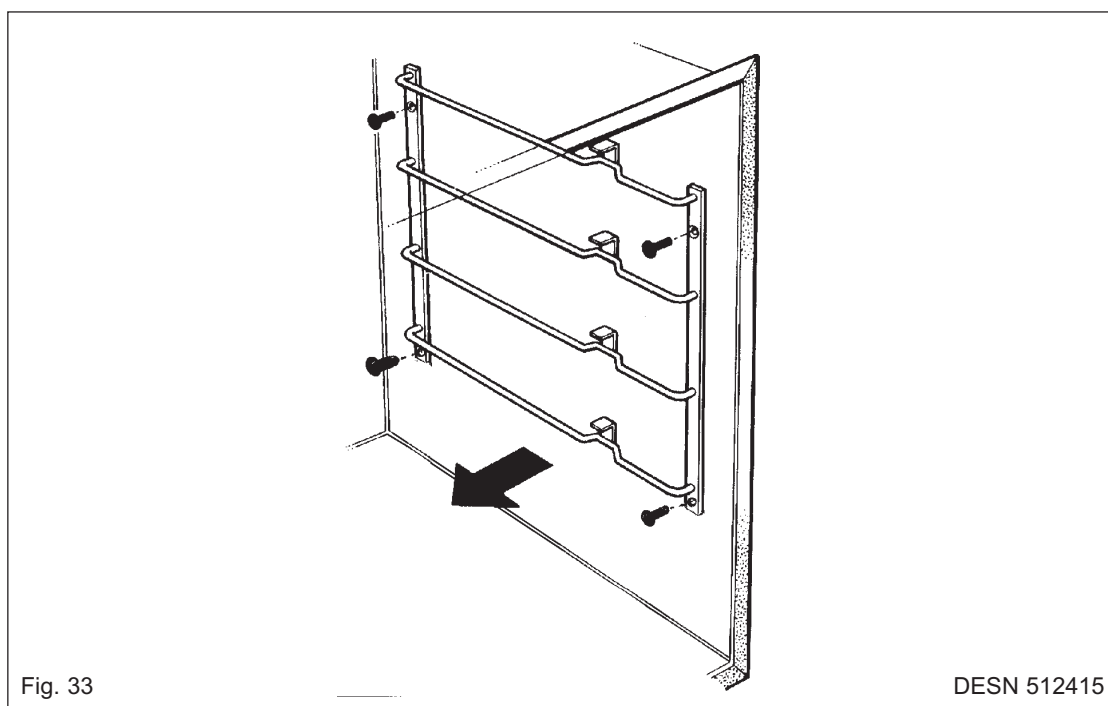

Fig. 33
N. REMOVER OS REVESTIMENTOS INTERNOS DOS FORNOS E GRELHADOR - VER FIG. 33